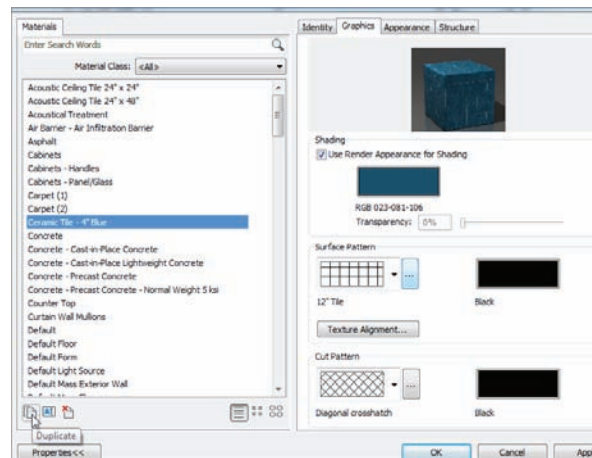

FIGURE 9.71 Creating a new tile
3. At the bottom-left of the dialog box, click the Duplicate button, as shown in Figure 9.71.
6. Change Surface Pattern to 12" (300mm) Tile (see Figure 9.71).